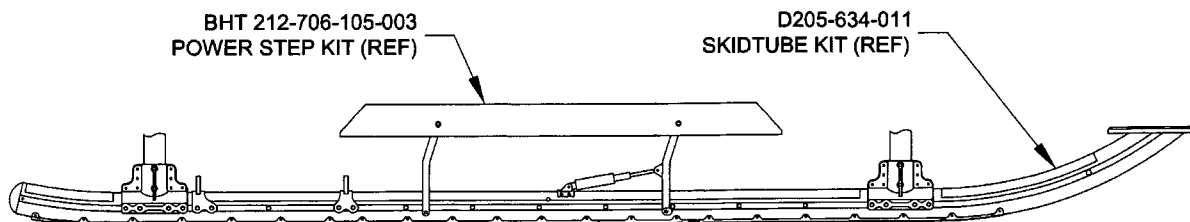
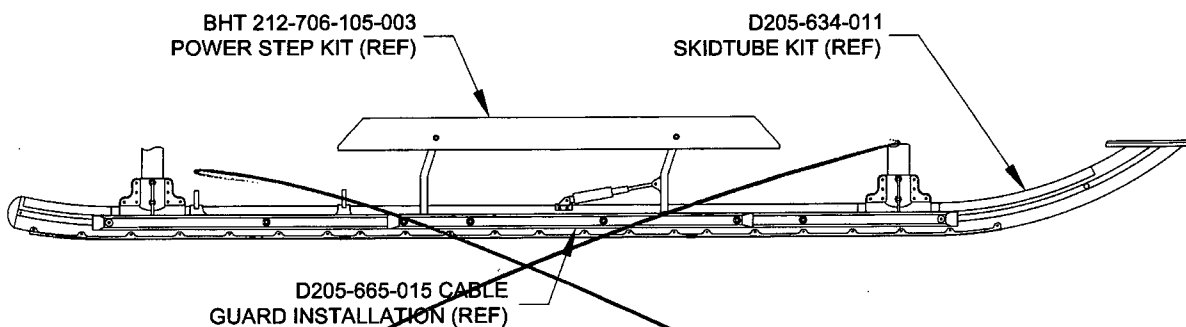

Figure 1.1 – BHT Power Step Kit Installed on the Standard Dart D205-634-011 Skidtube
Figure 1.2 – BHT Power Step Kit Installed on the Dart D205-634-011 Skidtube With the D205-665-015 Cable Guard Installed
These instructions cover the installation of the Dart D412-673-011 Electric Step Adaptation Kit, which modifies the Dart D205-634-011 Skidtube Kit to allow for the installation of the BHT 212-706-105-003 (or similar) Power Step Kit on either the LH or RH skidtube. The BHT Power Step Kit is installed per the Aircraft Maintenance Manual and is compatible with the Dart D205-665-015 Cable Guard. **Figure 1.1** shows the standard installation of the BHT Power Step Kit on the Dart D205-634-011 Skidtube Kit and **Figure 1.2** shows the installation of the BHT Power Step Kit on the Dart D205-634-011 Skidtube Kit with the D205-665-015 Cable Guard installed. The components in the Dart kits are as defined in Section 6.0 of these instructions.
- 4.2.6 Re-install the forward D2571/D2572 Saddles and D2594 Plugs onto the skidtube assembly, and re-install the skidtube assembly onto the aircraft per ICA-D205-634 (see **Figure 1.1** for the installed step).